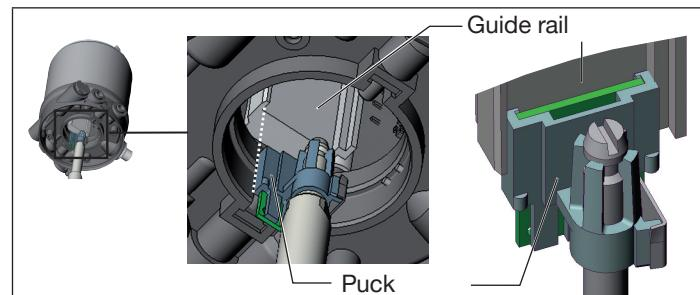

Fig. 6: Aligning the puck
2. The connection pieces of the control unit enter into the pilot air connections of the actuator (see "Fig. 6").